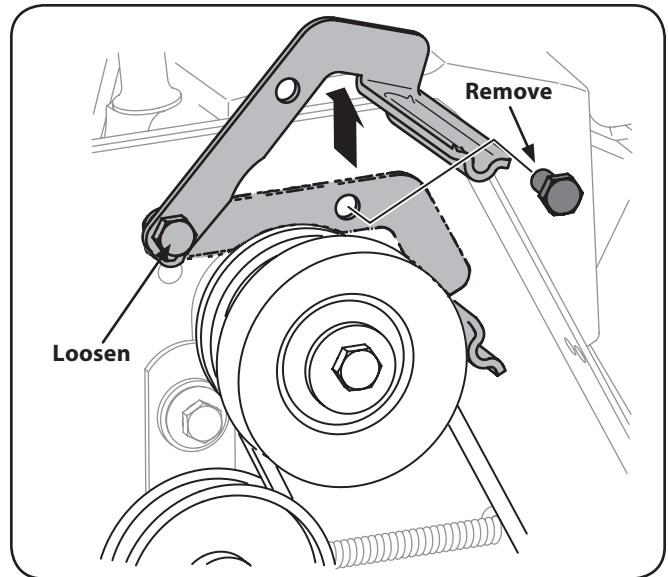

Figure 7-3
3. Loosen the bolt shown in Figure 7-3 securing the belt keeper bracket and remove the other bolt. Push the belt keeper bracket up off the engine pulley.